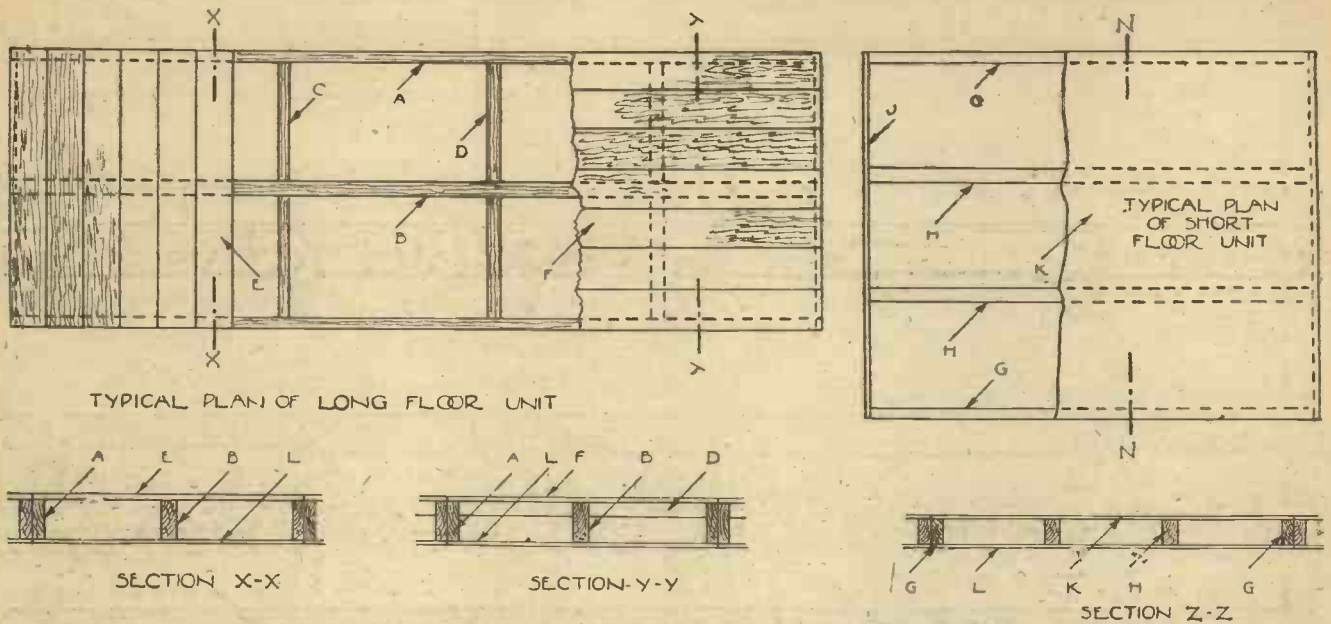

Fig. 51.—Plans and cross sections of typical long and short floor units.
In this article I am limiting the descriptions to the main structural essentials, and leaving until later the important and interesting subjects of thermal and sound insulation, floorings and ceiling coverings. Fig. 50 depicts four ways in which timber-framed pre-built floor units may be designed. Fig. 51 should be studied with Fig. 50. At (1) Fig. 50 is depicted floor units which are intended to span the whole of the length or breadth of an ordinary size room, excluding any bay window space across which usually is placed a beam as shown. It will be noticed that the floor units are deep, and will be heavy and rather cumbersome to handle. Although not recommended by me, the design is shown for several reasons. One is to show that designers should not take liberties with deflection; an examination of some of the really excellent general systems of pre-building which have recently been in the limelight have depth of floors which are too little to comply with the strength and deflection codes previously explained. It is obviously wrong to design floors which will be too weak, and will deflect to such an extent as to cause them to "rock." The floor unit as (1) have 7in. x 1 $\frac{1}{2}$ in. side joists of Douglas fir, or "1,200lb. extreme fibre stress in bending" timbers where they adjoin other units, and 7in. x 2in. main or intermediate joists. These sizes are in conformity with the L.C.C. by-laws for timber construction, which by-laws are followed by many local authorities outside London. If ordinary non-graded redwood
Fig. 51 shows plans and cross sections of typical timber-framed floor units. The long floor units should be limited to about 3ft. wide; the short floor units may be up to 4ft. wide, owing to their lightness in weight. It will be noticed that flooring boards may be laid either parallel or at right angles to the length of the units; some designers believe that the former gives a better appearance to the flooring; in my opinion, if ordinary redwood floorings are used, the direction of the boards does not matter very much, as the flooring is usually covered either wholly or mostly with carpets or other floor covering. If choice hardwoods are used, and which are not usually covered, then the boards are better laid with their length parallel to the length of the units.